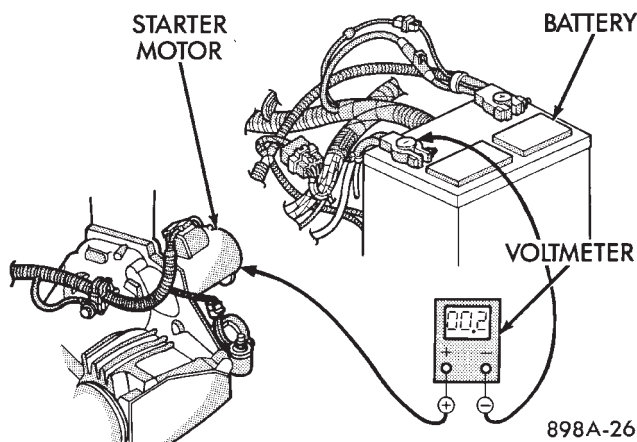

Fig. 8 Test Starter Ground - Typical
(5) Connect the positive lead of the voltmeter to the starter housing. Connect the negative lead of the voltmeter to the battery negative terminal post (Fig. 8). Rotate and hold the ignition switch in the Start position. Observe the voltmeter. If the reading is